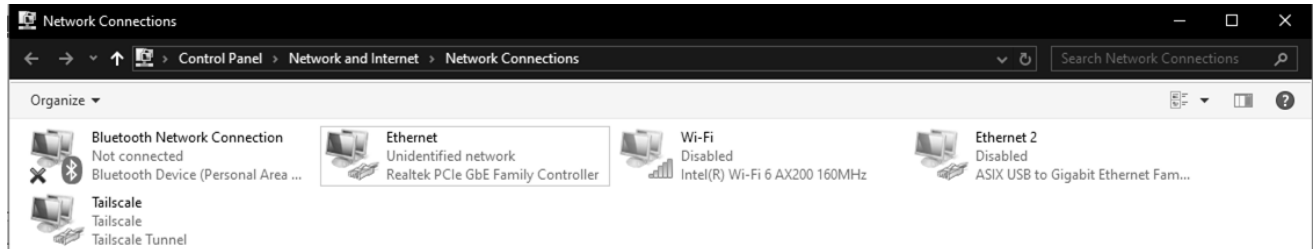

Figure 8.
1. Plug an Ethernet cable into the TAS-LAN-461 and your PC. Disable all network adapters except the one that the TAS-LAN-461 is connected to. In Figure 8, I have two Ethernet adapters: the laptop's and the USB-C hub port. I disabled the USB-C hub's port as well as the Wi-Fi adapter.